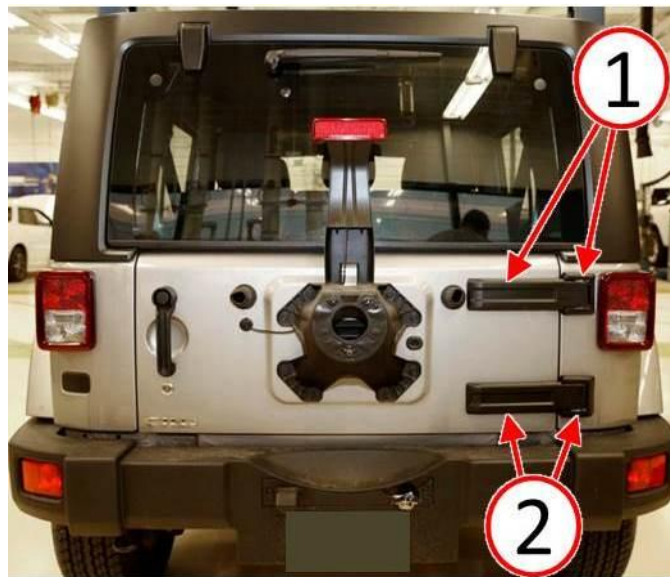

Fig. 1 Tailgate Hinge Covers
3. Remove the upper hinge covers (1) and lower hinge covers (2) (Fig. 1).